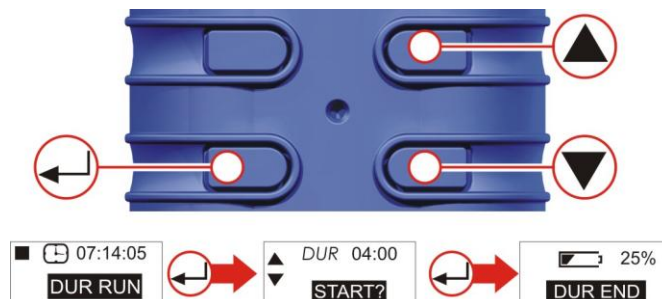

Figure 9 Run Duration
**F. RUN DURATION (PRO and PLUS ONLY)** (Fig. 9)